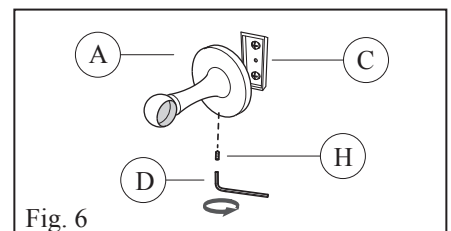

Fig. 6
7. Secure the end piece (A) with Allen wrench (H) and set screw (D). (Fig. 6)